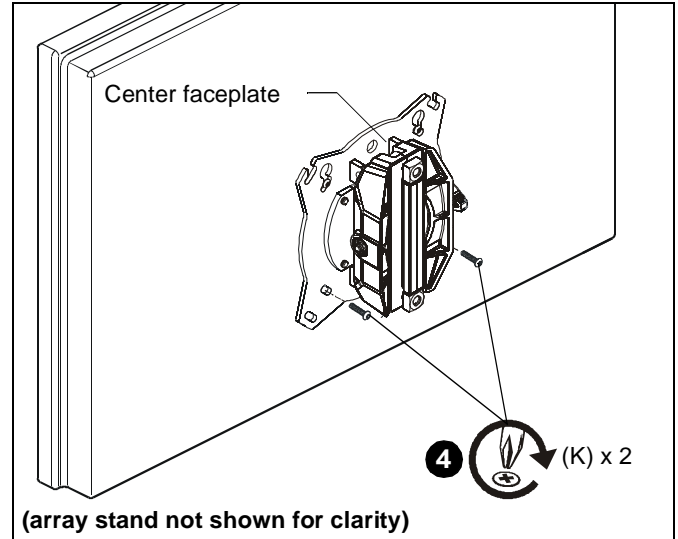

Figure 13
4. Using Phillips screwdriver, install two M4x12 mm Phillips pan machine screws (K) through the *lower* mounting holes on faceplate into the display. (See Figure 13)